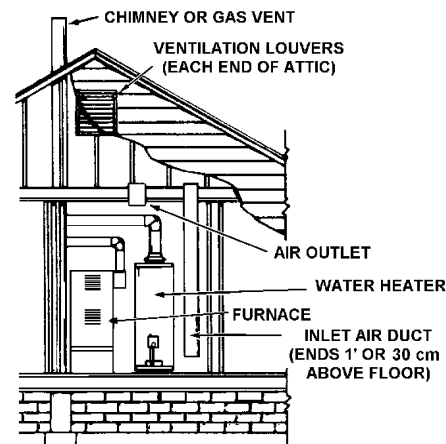

FIGURE 12.
- When communicating with the outdoors through vertical ducts, each opening shall have a minimum free area of 1 square inch per 4,000 BTU per hour (5.5 cm²/kW) of total input rating of all equipment in the enclosure. See Figure 12.